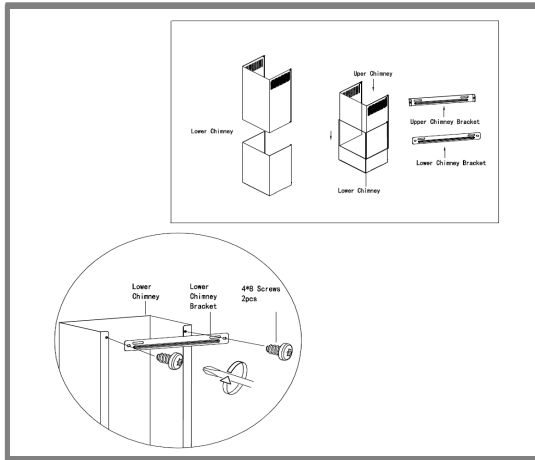

Fig. 9
Step 4 (Fig. 9, Fig. 9. 1, Fig. 9. 2)
- Secure the mounting bracket onto the screws firmly 1 & 2 and place the outer flue duct onto the appliances. (Fig. 9).